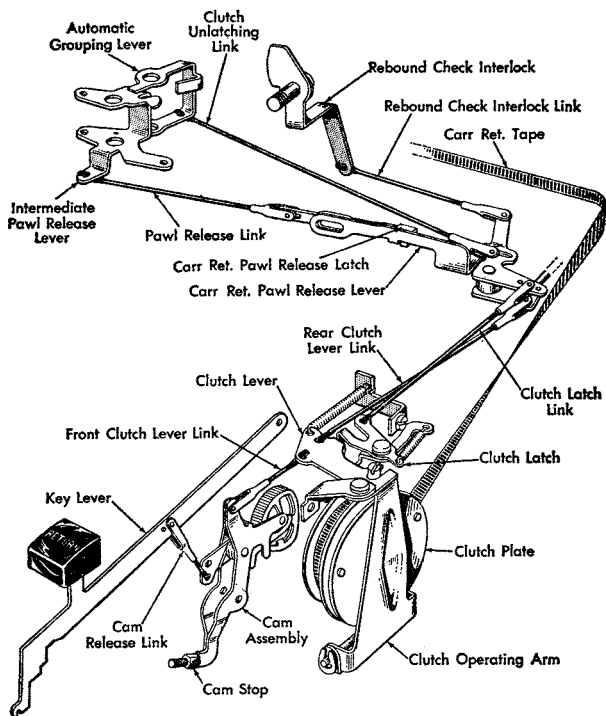

Figure 24. Carriage Return Mechanism
3. FRONT CLUTCH LEVER LINK. Adjust so that, with the cam on its high point, the clutch lever will clear the clutch latch by .020" to .025" (Figure 24).
4. REAR CLUTCH LEVER LINK. Adjust with the cam and the carriage return pawl release lever in their rest positions. The link should just span the distance between the clutch lever and the elongated hole of the clutch lever bellcrank (Figure 24).
5. CLUTCH LATCH LINK. Adjust with the cam at rest so that the elongated hole in the clutch latch bellcrank is parallel to the rear rail (Figure 24).